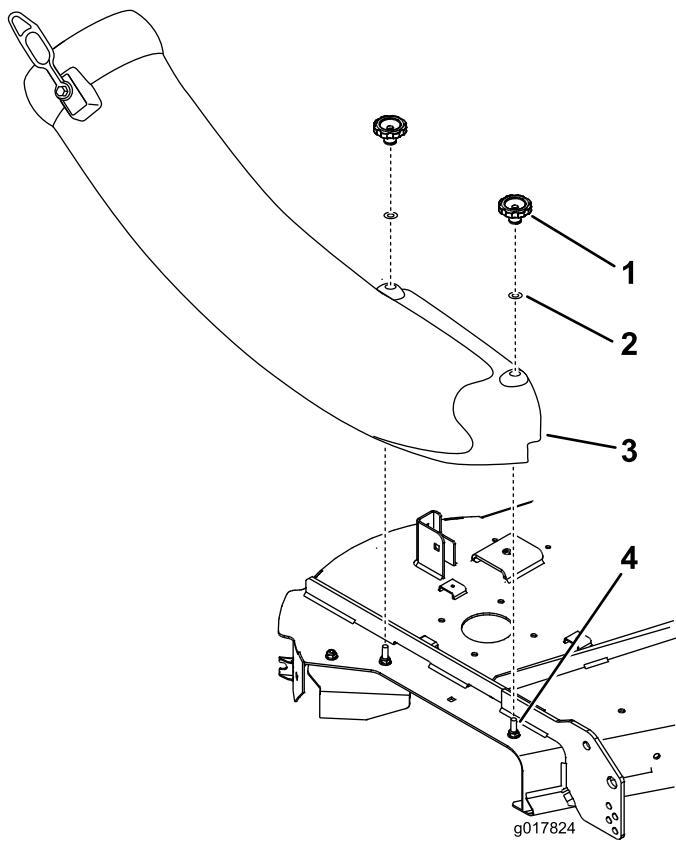

Figure 26
4. Align the hole in the chute and install it onto the bolt. Secure the chute to the mower deck with the knob and flat washer (5/16 inch) (Figure 26).